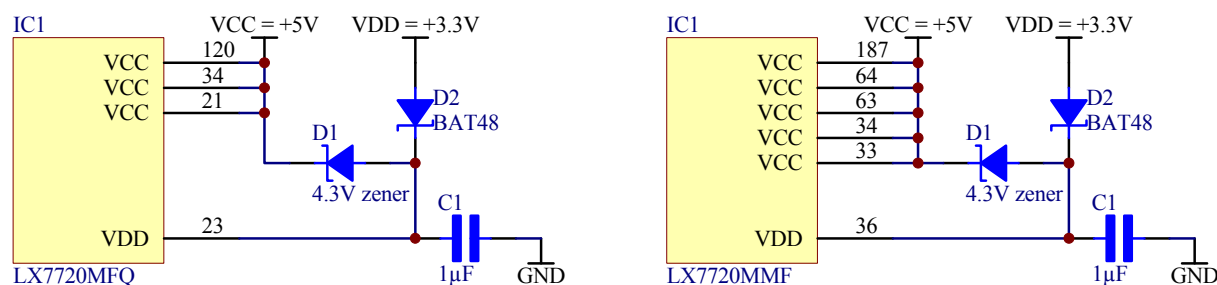

Figure 2. Zener diode VDD biasing for fast start-up with VCC
- VDD can be biased from the 5V VCC rail by fitting a Zener from VCC (+5V) to VDD. If moderate power rated Zener is used, the voltage drop will be lower than the nominal zener voltage rating due to the relatively low operating current. For example, a 4.3V 1W 1N4731A Zener is specified at 58mA. When used in the circuit of Figure 2 below, the voltage drop was 3.5V with 0.5mA current, therefore biasing VDD to 1.5V
- Figure 2 shows VDD being fed through a Schottky diode D2 to isolate other 3.3V loads (and their capacitance) from the Zener D1. If the LX7720 has its own independent 3.3V supply, D2 can be omitted